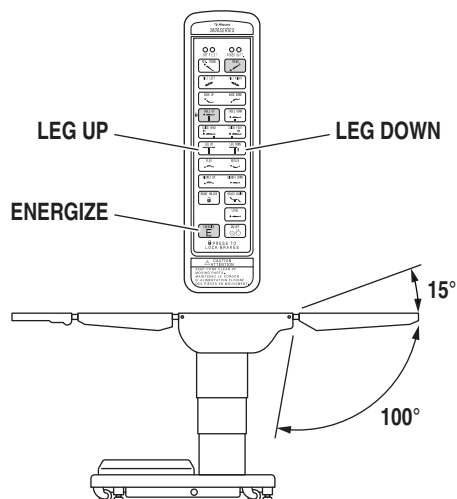

Figure 2-12. Leg Section Positioning
g. Leg Section To lower the leg section, press the ENERGIZE button and then the LEG DOWN button (figure 2-12). The leg section will go down to 100° below horizontal. To raise the leg section, press the ENERGIZE button and then the LEG UP button. The leg section will go up to 15° above horizontal.